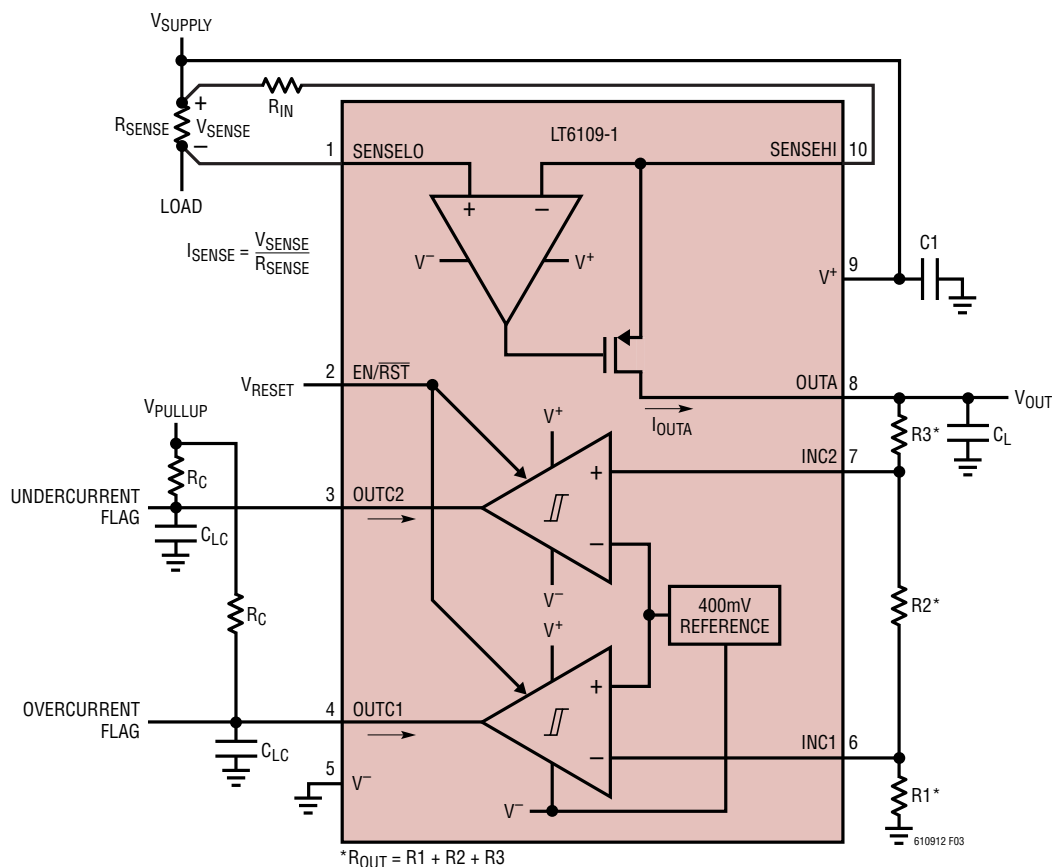

Figure 3. LT6109-1 Typical Connection
**TYPICAL PERFORMANCE CHARACTERISTICS** Performance characteristics taken at  $T_A = 25^\circ\text{C}$ ,  $V^+ = 12\text{V}$ ,  $V_{\text{PULLUP}} = V^+$ ,  $V_{\text{EN/RST}} = 2.7\text{V}$ ,  $R_{\text{IN}} = 100\Omega$ ,  $R_{\text{OUT}} = R_1 + R_2 + R_3 = 10\text{k}$ , gain = 100,  $R_C = 25.5\text{k}$ ,  $C_L = C_{\text{LC}} = 2\text{pF}$ , unless otherwise noted. (See Figure 3)
**TYPICAL PERFORMANCE CHARACTERISTICS** Performance characteristics taken at  $T_A = 25^\circ\text{C}$ ,  $V^+ = 12\text{V}$ ,  $V_{\text{PULLUP}} = V^+$ ,  $V_{\text{EN/RST}} = 2.7\text{V}$ ,  $R_{\text{IN}} = 100\Omega$ ,  $R_{\text{OUT}} = R_1 + R_2 + R_3 = 10\text{k}$ , gain = 100,  $R_C = 25.5\text{k}$ ,  $C_L = C_{LC} = 2\text{pF}$ , unless otherwise noted. (See Figure 3)
**TYPICAL PERFORMANCE CHARACTERISTICS** Performance characteristics taken at  $T_A = 25^\circ\text{C}$ ,  $V^+ = 12\text{V}$ ,  $V_{\text{PULLUP}} = V^+$ ,  $V_{\text{EN/RST}} = 2.7\text{V}$ ,  $R_{\text{IN}} = 100\Omega$ ,  $R_{\text{OUT}} = R1 + R2 + R3 = 10\text{k}$ , gain = 100,  $R_C = 25.5\text{k}$ ,  $C_L = C_{LC} = 2\text{pF}$ , unless otherwise noted. (See Figure 3)
An internal sense amplifier loop forces SENSEHI to have the same potential as SENSELO as shown in Figure 3. Connecting an external resistor,  $R_{IN}$ , between SENSEHI and  $V_{SUPPLY}$  forces a potential,  $V_{SENSE}$ , across  $R_{IN}$ . A corresponding current,  $I_{OUTA}$ , equal to  $V_{SENSE}/R_{IN}$ , will flow through  $R_{IN}$ . The high impedance inputs of the sense amplifier do not load this current, so it will flow through an internal MOSFET to the output pin, OUTA.
where  $R_{OUT} = R_1 + R_2 + R_3$  as shown in Figure 3.
Kelvin connection of the SENSEHI and SENSELO inputs to the sense resistor should be used in all but the lowest power applications. Solder connections and PC board interconnections that carry high currents can cause significant error in measurement due to their relatively large resistances. One 10mm  $\times$  10mm square trace of 1oz copper is approximately 0.5m $\Omega$ . A 1mV error can be caused by as little as 2A flowing through this small interconnect. This will cause a 1% error for a full-scale  $V_{SENSE}$  of 100mV. A 10A load current in the same interconnect will cause a 5% error for the same 100mV signal. By isolating the sense traces from the high current paths, this error can be reduced by orders of magnitude. A sense resistor with integrated Kelvin sense terminals will give the best results. Figure 3 illustrates the recommended method for connecting the SENSEHI and SENSELO pins to the sense resistor.
then use the configuration shown in Figure 3. The desired trip points and full-scale analog output voltage for the circuit in Figure 3 can then be achieved using the following equations: